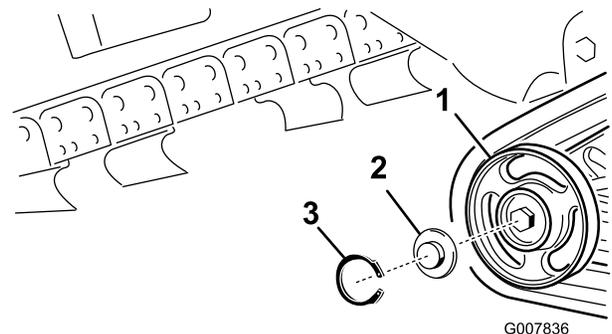

Figure 51
2. Remove the snap ring and cap from a road wheel (Figure 51).
3. Check the grease under the cap and around the gasket (Figure 51). If it is dirty, gritty, or depleted, clean out all of the grease, replace the gasket, and add new grease.
5. Place the greased road wheel cap over the bolt head (Figure 51).
6. Secure the road wheel cap with the snap ring (Figure 51).